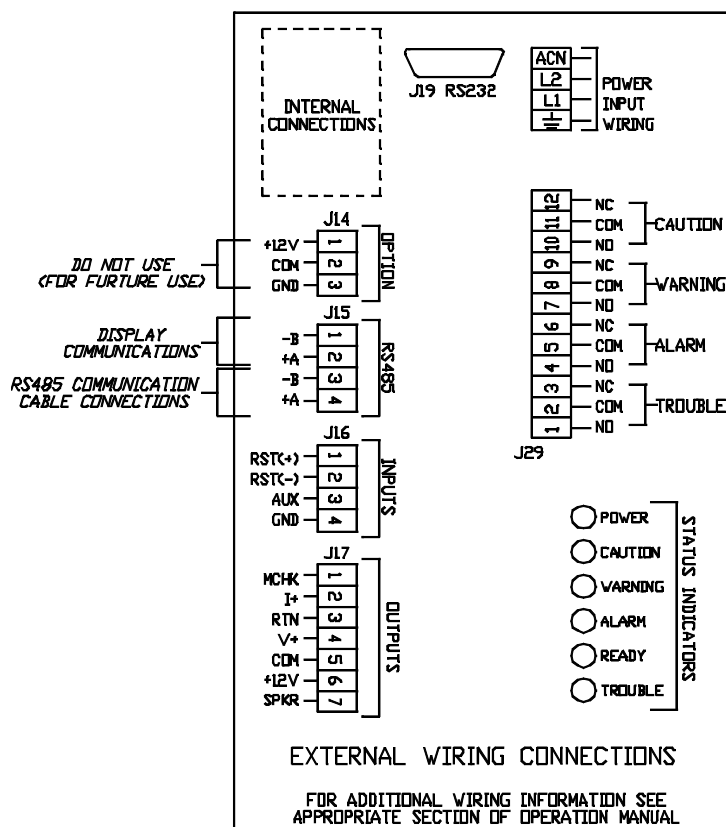

Figure 2-6. Wiring Connections
### Analog Signal Output Wiring (FIGURE 2-6)
These voltage and current outputs are proportional to the displayed gas concentration. Connections are made to terminal strip J17 located on the lower left side of the main circuit board (FIGURE 2-6). Analog output wiring should enter the unit through the hole provided on the left side of the unit. The terminal portion of the connector can be removed from the circuit board for easier connection. The maximum wire size that these connectors can accept is Listed #12 AWG; the maximum cable length is 500 feet (152 m).
The function of each relay connector terminal is indicated on FIGURE 2-6. Relay wiring should enter the unit through one of the openings on the right side of the unit. Connections are made at the internal terminal strip labeled J29, located on the right side of the circuit board (FIGURE 2-6). The terminal portion of the connector can be unplugged from the circuit board for easier wire connections.
- NORMALLY OPEN (NO),
- NORMALLY CLOSED (NC)
as marked in FIGURE 2-6 refers to the relay contacts as if the relay is de-energized or in the trouble condition. A relay contact is provided between the Normally Closed (NC) and Common (COM) position. This contact will be made in the event that main power to the unit is lost or any other trouble condition exists.
The Trouble relay wiring should enter the unit through one of the entries on the right side of the unit. Connections are made at the internal terminal strip labeled J29, positions 1, 2 and 3 (located on the right side of the circuit board - FIGURE 2-6). The terminal portion of the connector can be unplugged from the circuit board for easier wire connections. The maximum wire size that these connectors can accept is #12 AWG.